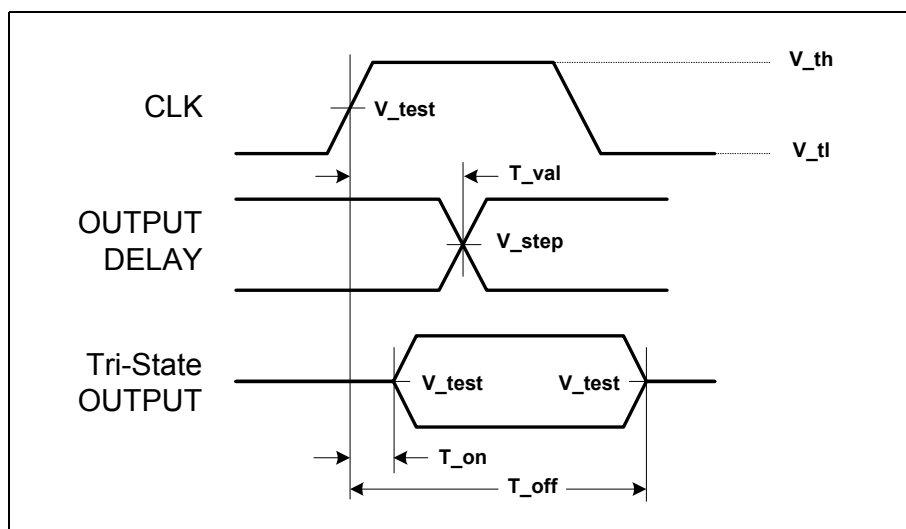
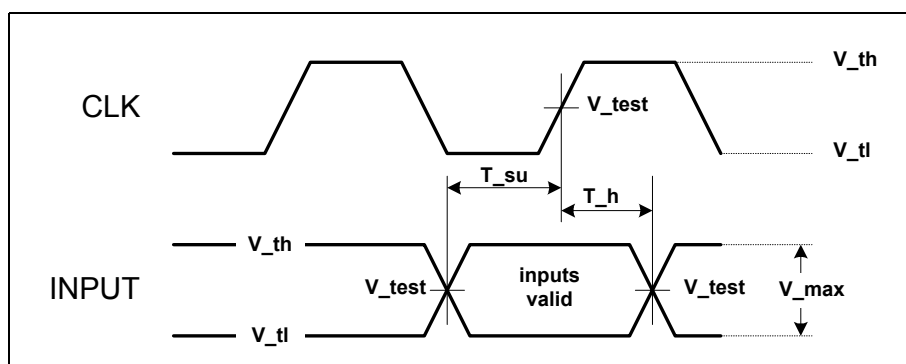

Figure 30. Output Timing Measurement Conditions
Figure 31. Input Timing Measurement Conditions
Figure 30, Figure 31, and Table 39 define the conditions under which timing measurements are done. The component test guarantees that all timings are met with minimum clock slew rate (slowest edge) and voltage swing. The design must guarantee that minimum timings are also met with maximum clock slew rate (fastest edge) and voltage swing. In addition, the design must guarantee proper input operation for input voltage swings and slew rates that exceed the specified test conditions.
- Timing measurement conditions are illustrated in Figure 30.
- Timing measurement conditions are illustrated in Figure 31.